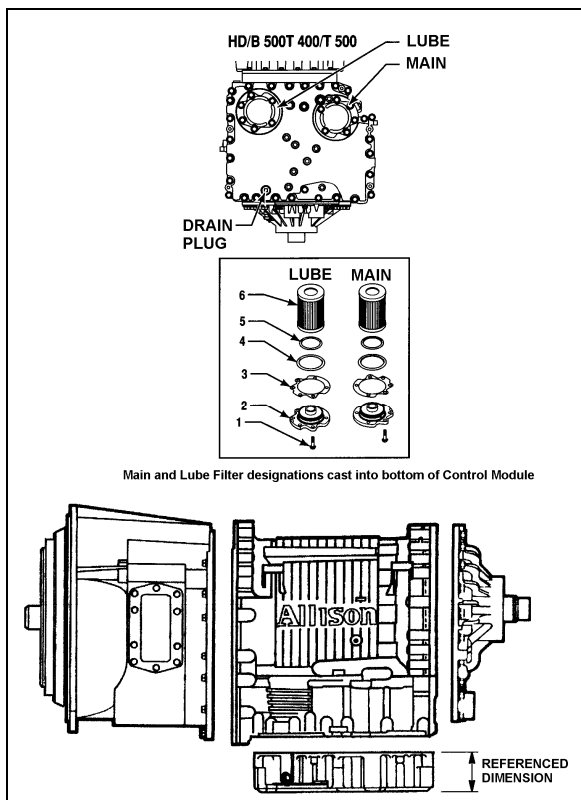

FIGURE 7: DRAIN PLUG AND FILTERS 07052
- Remove the drain plug from under the transmission (Fig. 7) and allow the oil to drain into a suitable container. Check the condition of the oil as described previously.
- To replace the integral filters, remove twelve bolts (6 on each cover), two filter covers, two O-rings, two square cut seals and the two filters from the bottom of the control module (Fig. 7).